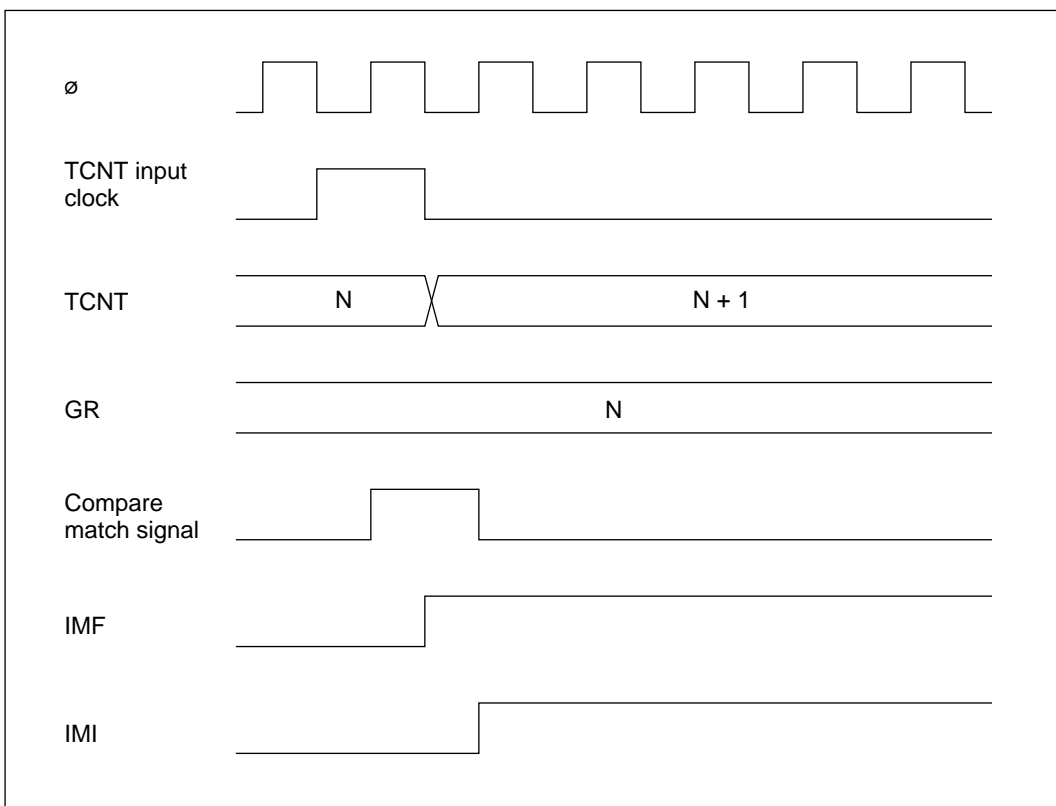

Figure 10-57 Timing of Setting of IMFA and IMFB by Compare Match
Timing of Setting of IMFA and IMFB at Compare Match: IMFA and IMFB are set to 1 by a compare match signal generated when TCNT matches a general register (GR). The compare match signal is generated in the last state in which the values match (when TCNT is updated from the matching count to the next count). Therefore, when TCNT matches a general register, the compare match signal is not generated until the next timer clock input. Figure 10-57 shows the timing of the setting of IMFA and IMFB.